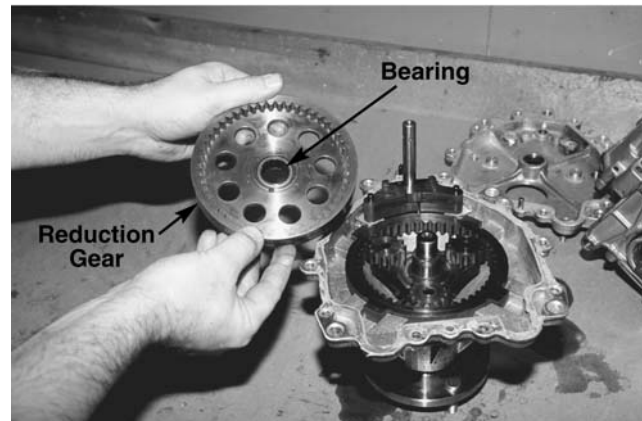

Figure 10-49
- Remove the reduction gear and inspect for missing teeth or irregular wear patterns. See Figure 10-49.